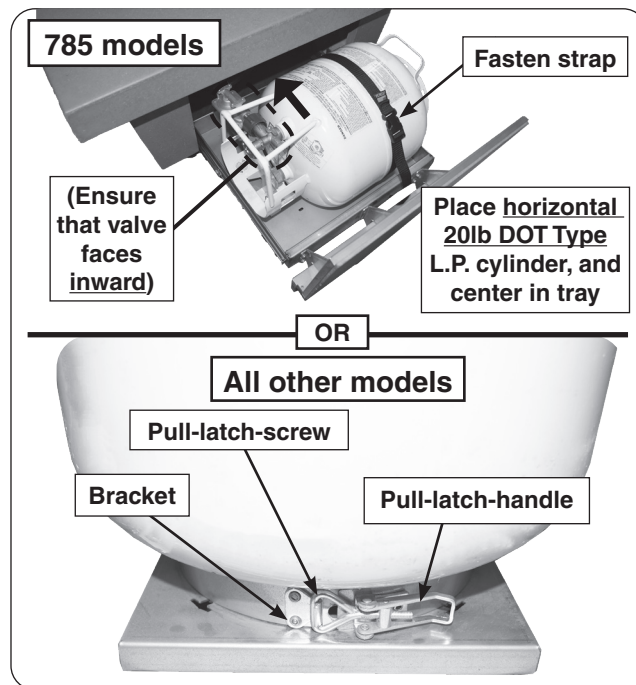
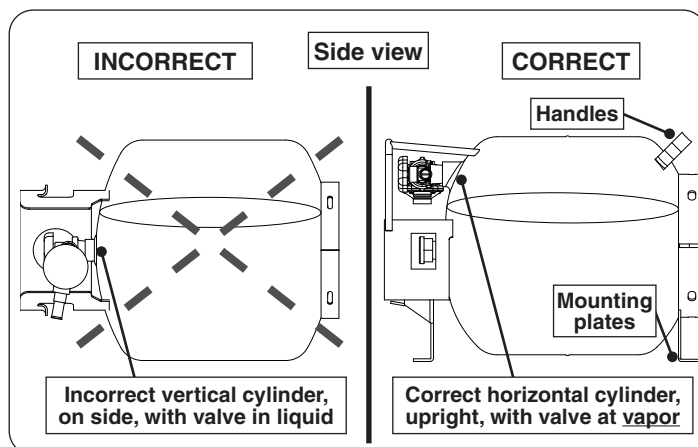

Fig. 32-2 L.P. Cylinder placement
Fig. 32-3 Horizontal L.P. Cylinder detail (if applicable)
3. The propane cylinder (not included) is to be located inside the base of the unit, via the storage door/drawer opening. Insert the cylinder into the tank holder tray and secure it. See Fig. 32-2, Fig. 32-3 (if applicable), and the details below: